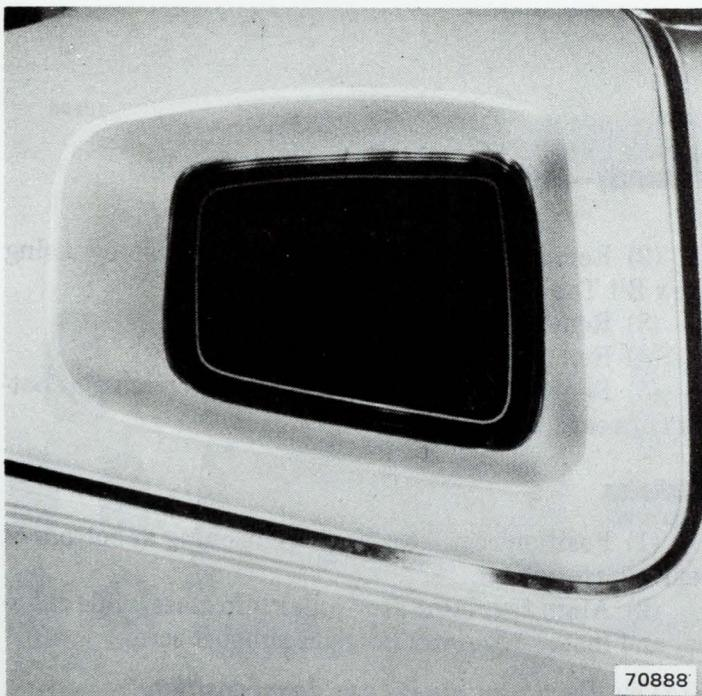

Fig. 3K-13 Rear Quarter Window Decal Installed—Barcelona II
(6) Clean glass with AMC Glass Cleaner, or equivalent, and install quarter window decal (fig. 3K-13), if not equipped.